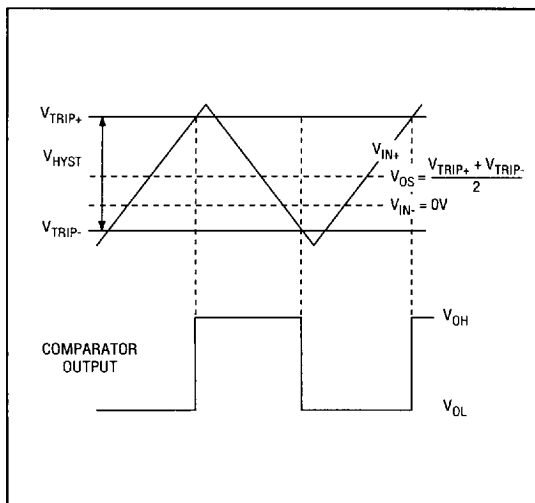

Figure 1 Input and Output Waveform, Noninverting Input Varied
- Note 2:** The input-referred trip points are the extremities of the differential input voltage required to make the comparator output change state. The difference between the upper and lower trip points is equal to the width of the input-referred hysteresis zone. See Figure 1.
- Note 3:** V_{OS} is defined as the center of the input-referred hysteresis zone. See Figure 1.
The hysteresis in a comparator creates two trip points: one for the rising input voltage and one for the falling input voltage (Figure 1). The difference between the trip points is the hysteresis. When the comparator's input voltages are equal, the hysteresis effectively causes one comparator input voltage to move quickly past the other, thus taking the input out of the region where oscillation occurs. Standard comparators require hysteresis to be added with external resistors. The MAX941/MAX942/MAX944's fixed internal hysteresis
Figure 1 illustrates the case where IN- is fixed and IN+ is varied. If the inputs were reversed, the figure would look the same, except the output would be inverted.